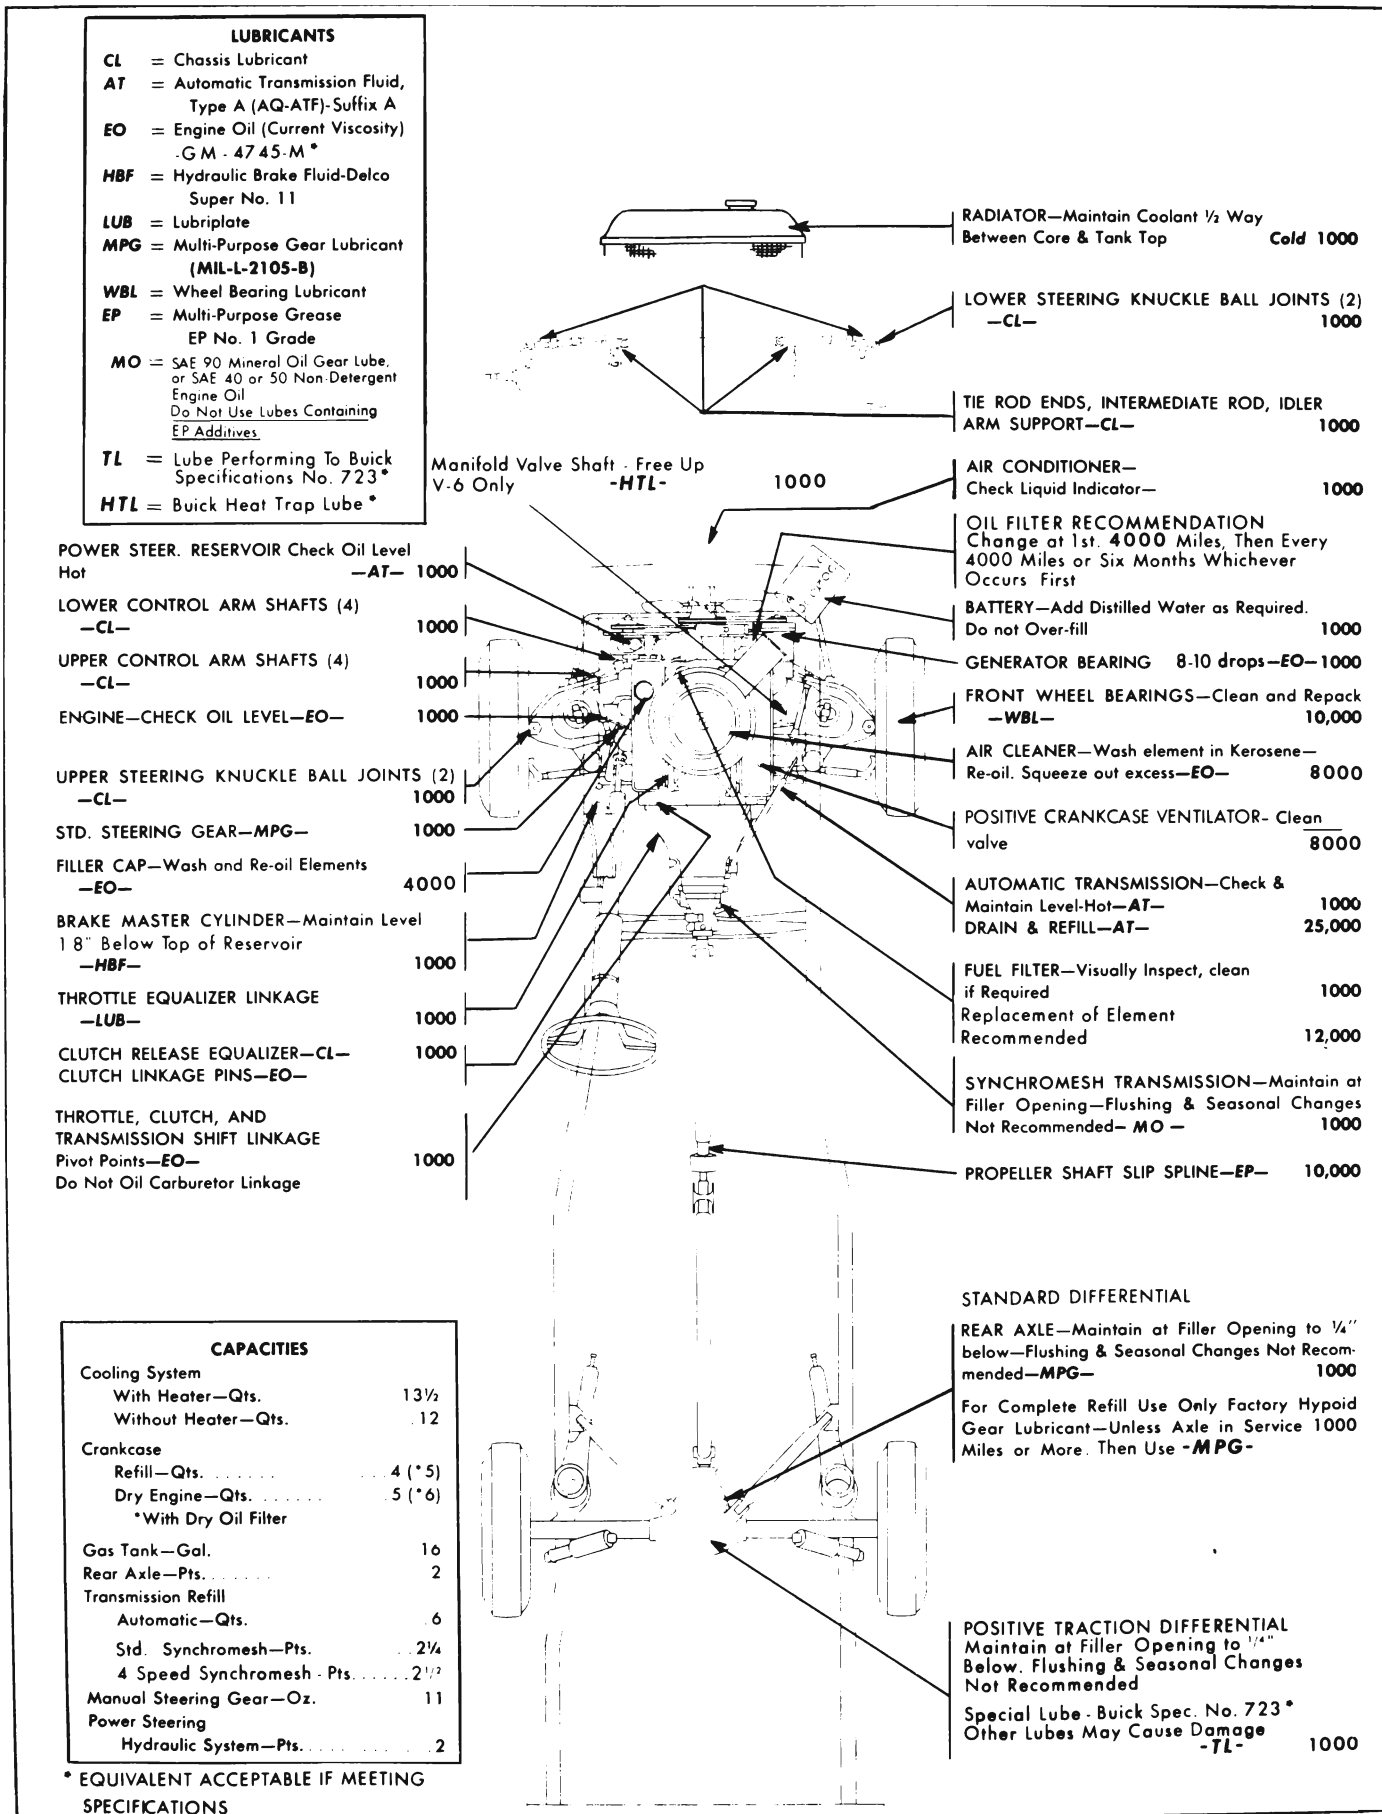

Figure 1-3-Chassis Lubricare Chart
2. Front Suspension, Steering Linkage and Clutch Lubrication Fittings. Wipe dirt from lubrication fittings, then apply a good grade of water-resistant chassis lubricant, under pressure, at the following points (Fig. 1-3):